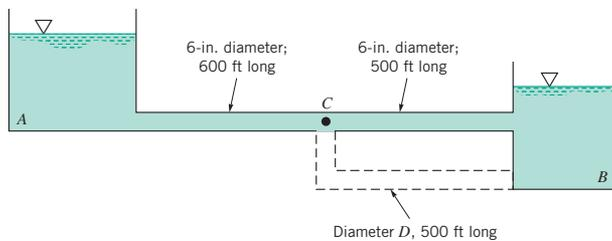

FIGURE P8.89
**8.89** The flowrate between tank A and tank B shown in Fig. P8.89 is to be increased by 30% (i.e., from  $Q$  to  $1.30Q$ ) by the addition of a second pipe (indicated by the dotted lines) running